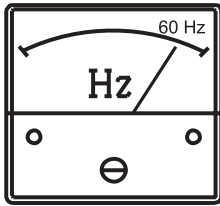

Figure 7. Frequency Meter
5. The generator's **frequency meter** (Figure 7) should be displaying the 60-cycle output frequency in **HERTZ**.